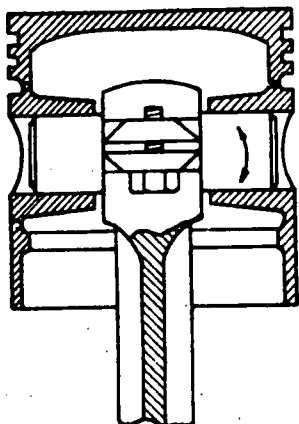

Fig. 5
- fixed in the connecting rod and free in the piston (fig. 5).